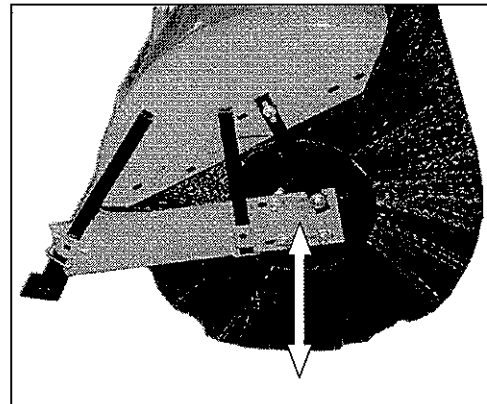

figure 17
4. At each end of the brush head, measure from the center of the core shaft to the ground (figure 17).